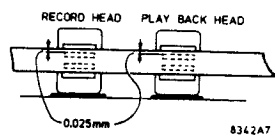

Fig. 13
- Adjusting the height of the head (Fig. 13)